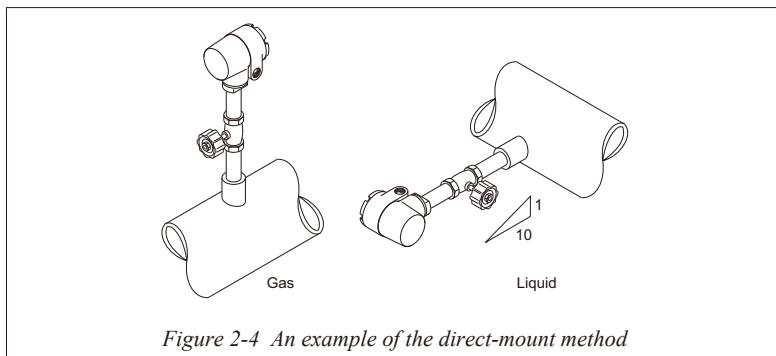

Figure 2-4 An example of the direct-mount method
- Figure 2-4 shows an example of the direct-mount method.